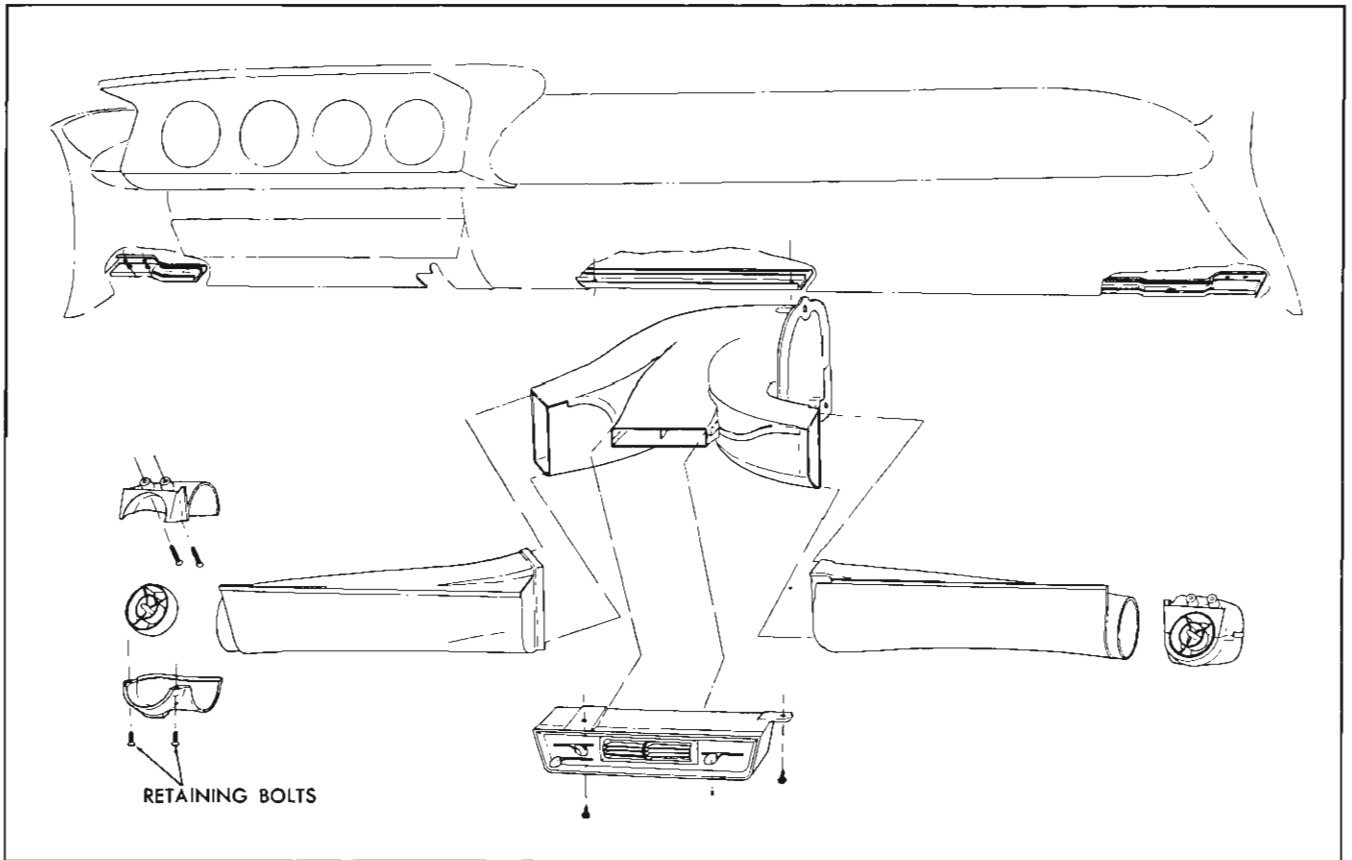

Fig. 11-57 Air Conditioning Ducts
1. Disconnect battery and remove left A/C duct (Fig. 11-57).
4. Remove left A/C duct (Fig. 11-57).